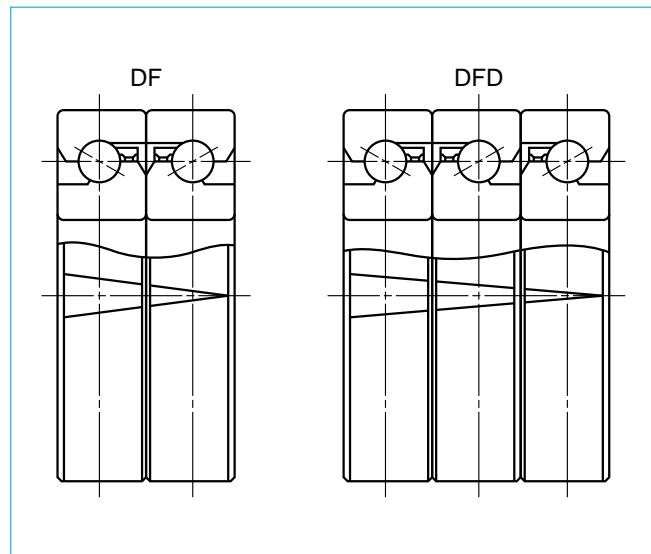

Fig. 2 Examples of combination and "V" mark
- Figure 2 shows examples of combinations. There is "V" mark on the outside surface of the bearing to avoid misarrangement. A complete letter "V" should be formed when all bearings align correctly to form a set.